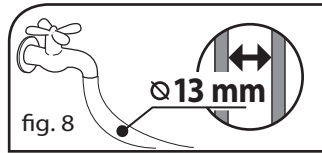

fig. 8
4. Connect garden hose to the cold water source and turn water on completely (fig. 8).